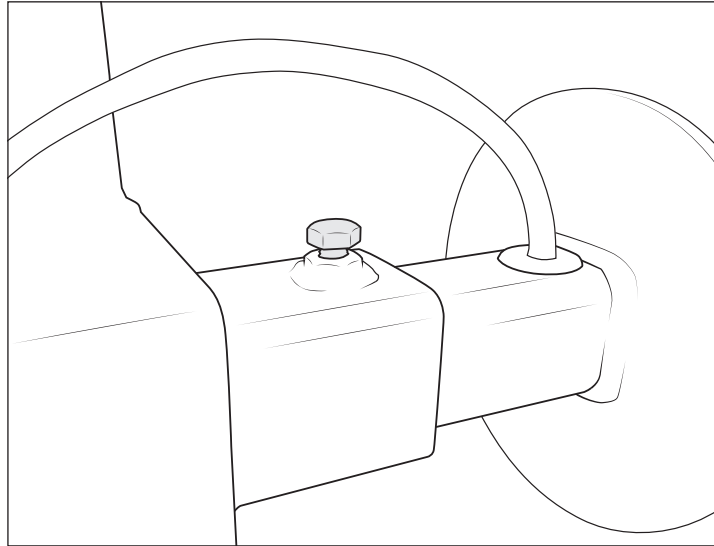

Figure 23
8. Temporarily install the M10 X 20 anti-vibration bolt into the Tire Carrier. Tighten it a bit to prevent the 1/2" bolt from sliding rearward when the tire is initially installed so that it cannot damage the tailgate. Tighten this bolt fully after the tire is on for the first time and after the 1/2" bolt has been adjusted (fig. 23).